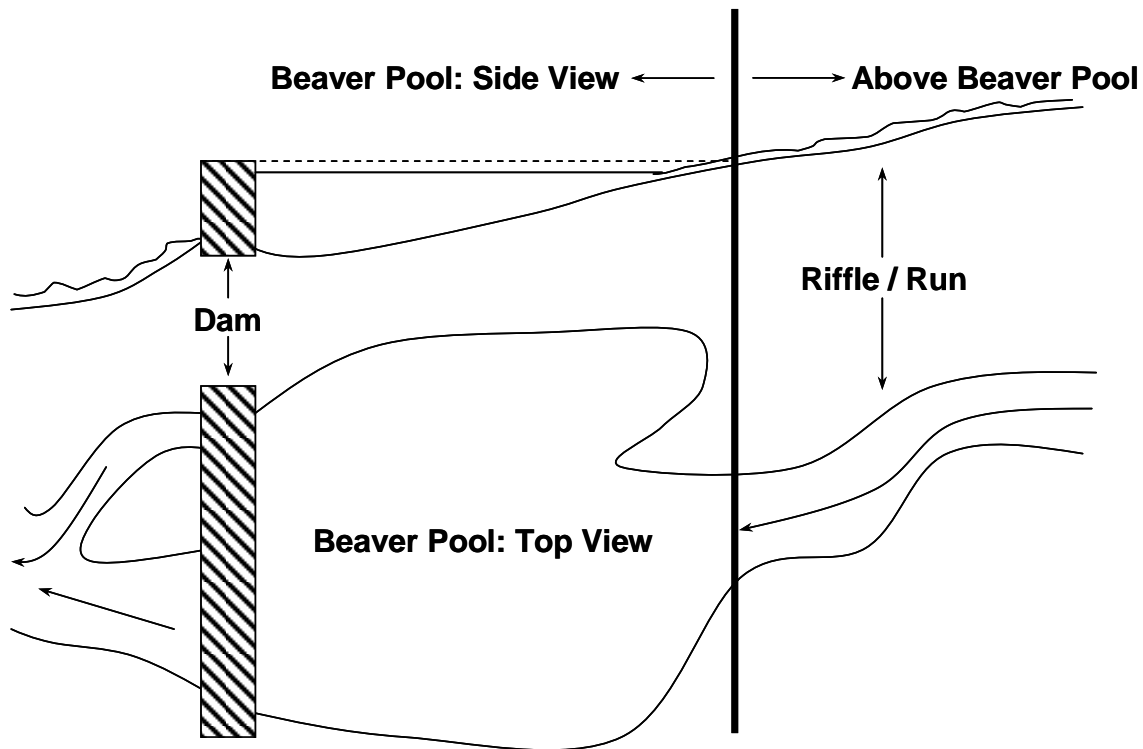

Figure B3: Top and side views of a beaver pool and how to distinguish the upstream boundary.
- Determine the upstream boundary of beaver pools using Figure B3